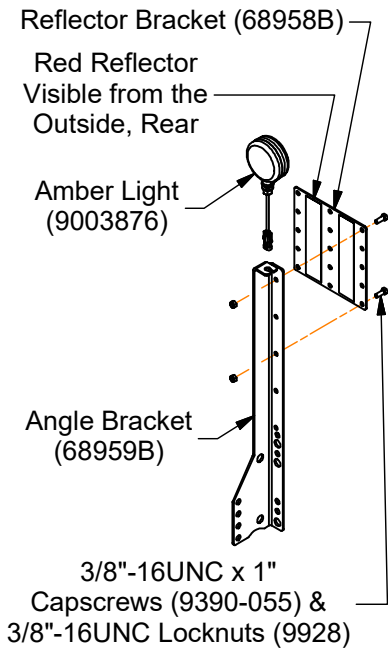

FIG. 2-16
1. Reattach the reflector brackets (68958B) on the left-hand outer reflector assembly and right-hand outer reflector assembly at the top of the angle bracket with the red reflector farthest from the angle bracket as shown in FIG. 2-16 and FIG. 2-17 with 3/8"-16UNC x 1" capscrews (9390-055) and 3/8"-16UNC locknuts (9928). Secure the amber lights (9003876) to the top of the reflector assemblies.